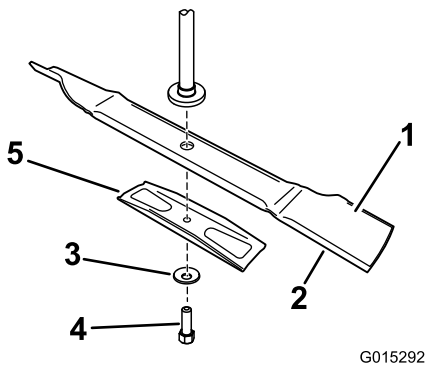

Figure 46
Hold the blade end using a rag or thickly-padded glove. Remove the blade bolt (rotating it counter-clockwise), curved washer, blade stiffener, and blade from the spindle shaft (Figure 46).
- Install the blade onto the spindle shaft (Figure 46).
- Install the blade stiffener, the curved washer (cupped side toward the blade) and the blade bolt (rotating it clockwise) (Figure 46).